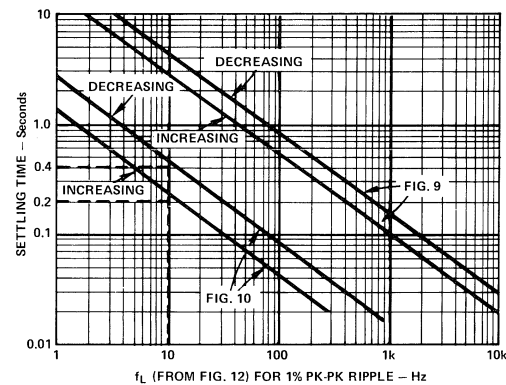

Figure 13. Settling Time to 1% of Step Change of RMS for the Circuits of Figures 9 and 10 as a Function of f_L .
4. To find the settling time to $<1\%$, use f_L corresponding to 1% ripple for the chosen C_1 , and consult Figure 13. Find the value for settling time at the intersection of f_L and each direction of input rms change (increasing and decreasing).